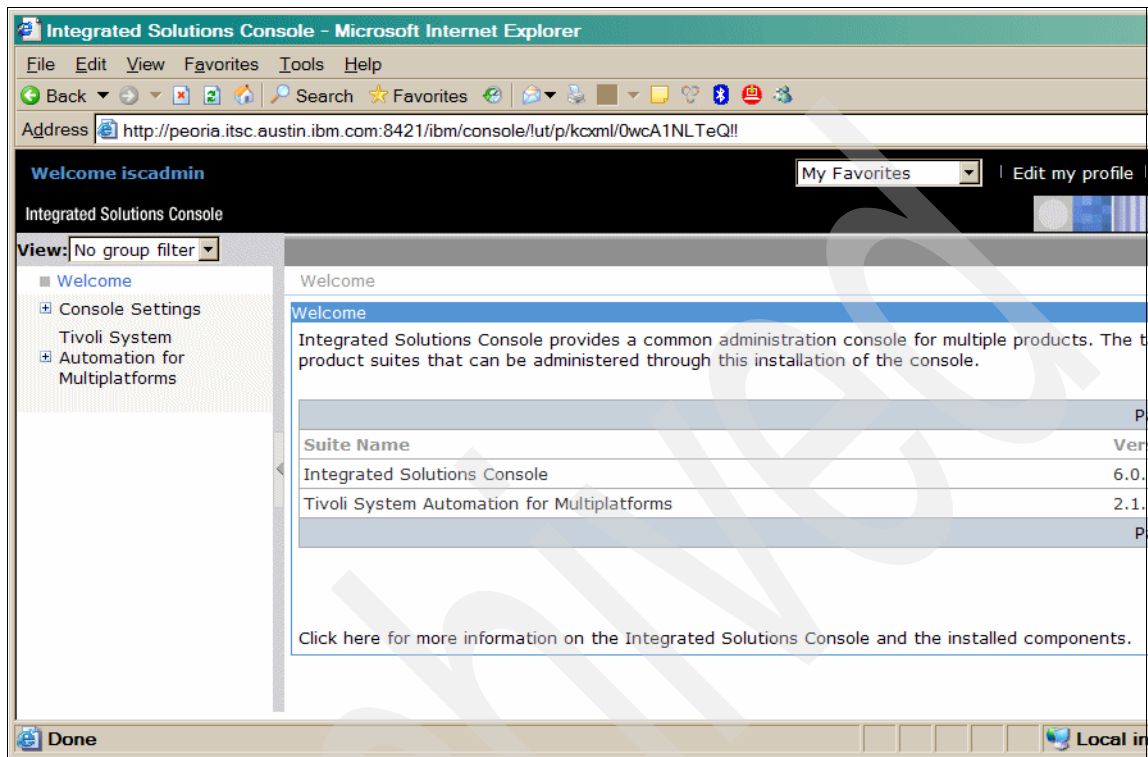

Figure 4-3 Welcome page for System Automation for Multiplatform
- d. Log in with the iscadmin user ID and password. You should see the screen in Figure 4-3.